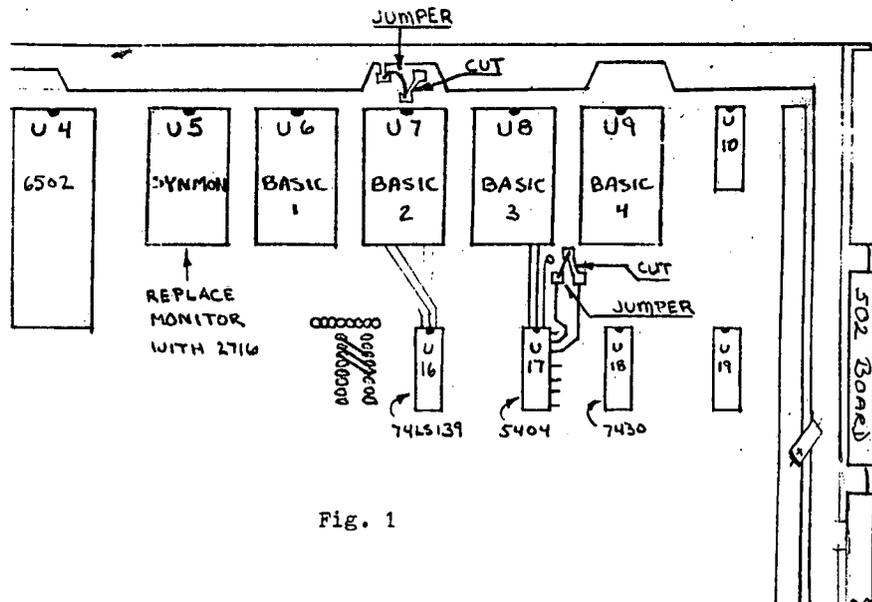

Fig. 1
2. Position board as shown in fig. 1. Locate SYNMON ROM and BASIC 2 ROM.